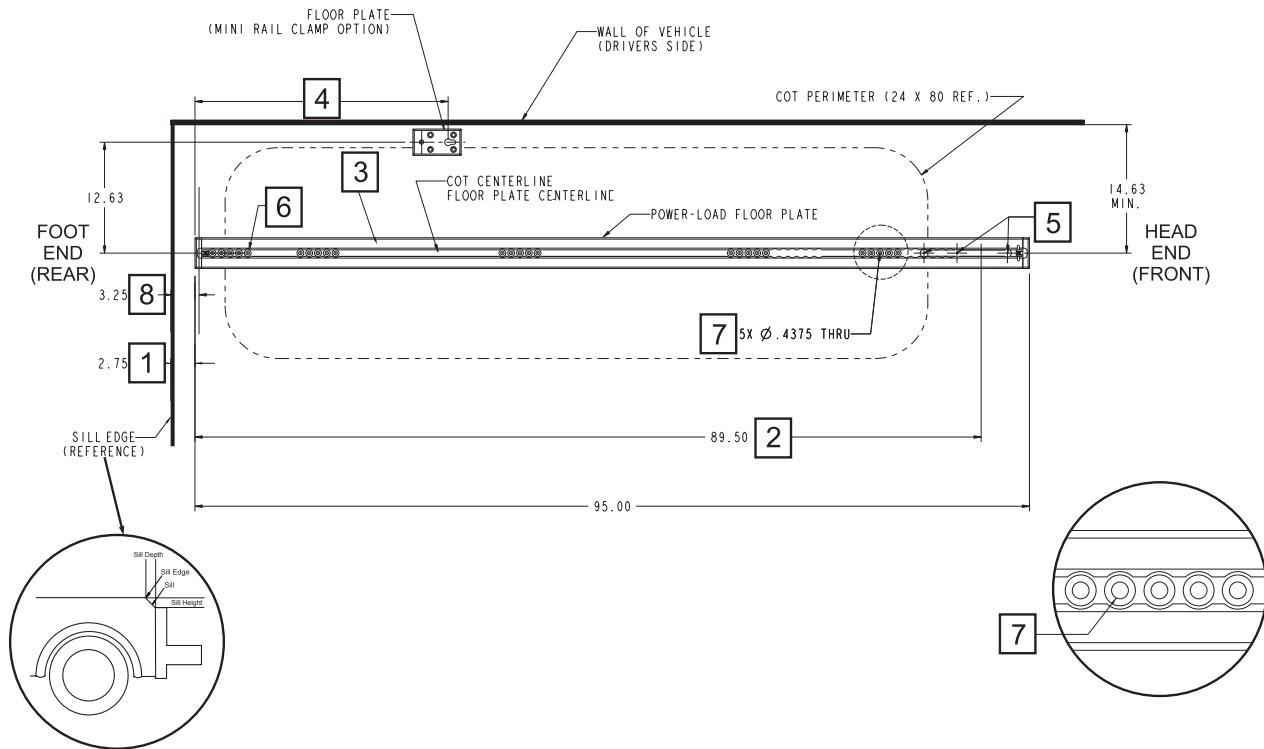
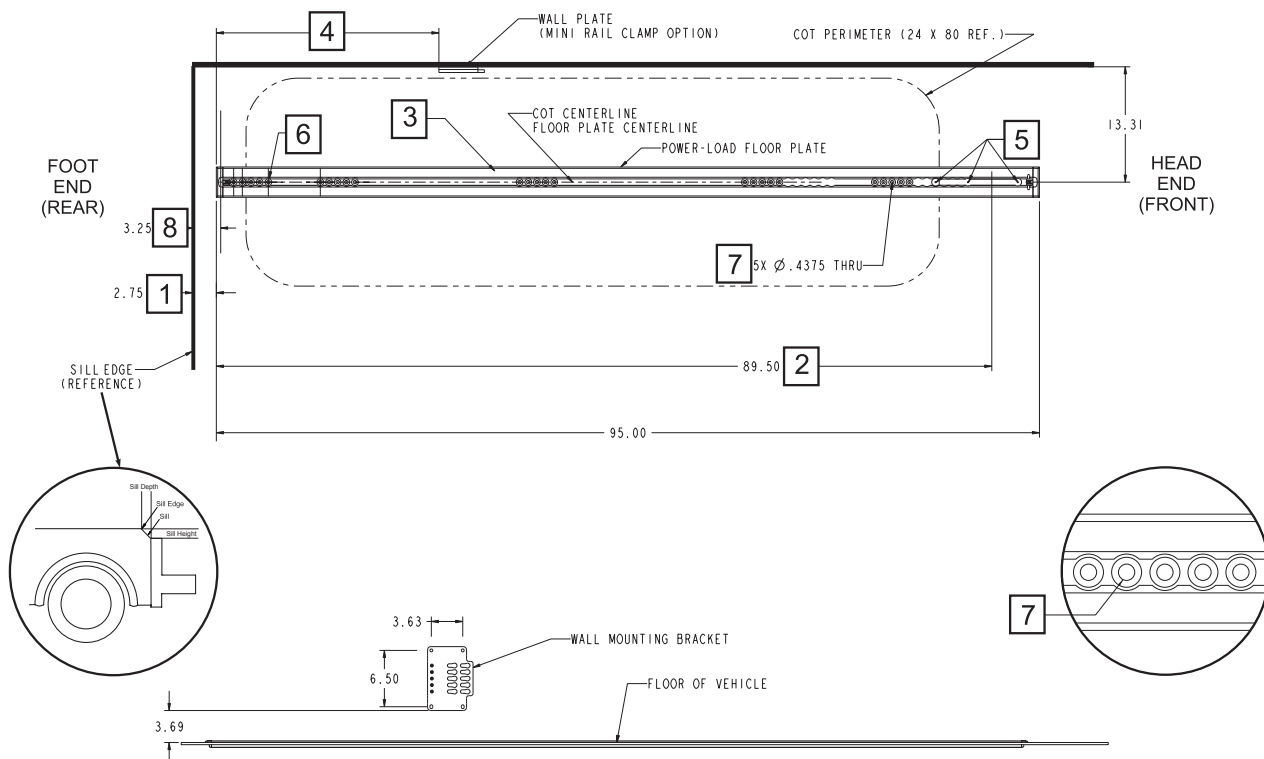

Figure 7: Power-LOAD Floor Plate with Single Standard Floor Mount Cot Fastener Floor Plate (Optional)
Figure 8: Power-LOAD Floor Plate with Standard Wall Mount Cot Fastener Wall Plate (Optional)
Select your configuration (see Figure 7 or Figure 8 on page 26). All measurements are shown in inches.
1. Identify the back-to-front mounting location relative to the door sill. Start at the location where the door sill first drops off as shown in Figure 7 or Figure 8 on page 26 and measure 2-3/4 in (7 cm) inwards. Use a pencil to mark the location along the width of the vehicle patient compartment.
3. Position the floor plate the desired distance from the vehicle patient compartment walls (see Figure 7 or Figure 8 on page 26).
Note: If the floor plate does not fit lengthwise in the vehicle patient compartment, use a saw to shorten the floor plate (see Figure 7 or Figure 8 on page 26). Before cutting the floor plate, remove the front end floor plate end cap. Replace the cap after cutting the floor plate.
- Identify and mark the electrical inlet hole (see Figure 7 or Figure 8 on page 26). This hole will be drilled to 1/2 in (1.3 cm) diameter.
- Identify and mark the fifth hole from the foot end for the drain tube assembly (see Figure 7 or Figure 8 on page 26). This hole will be drilled to 9/16 in (1.4 cm) diameter.